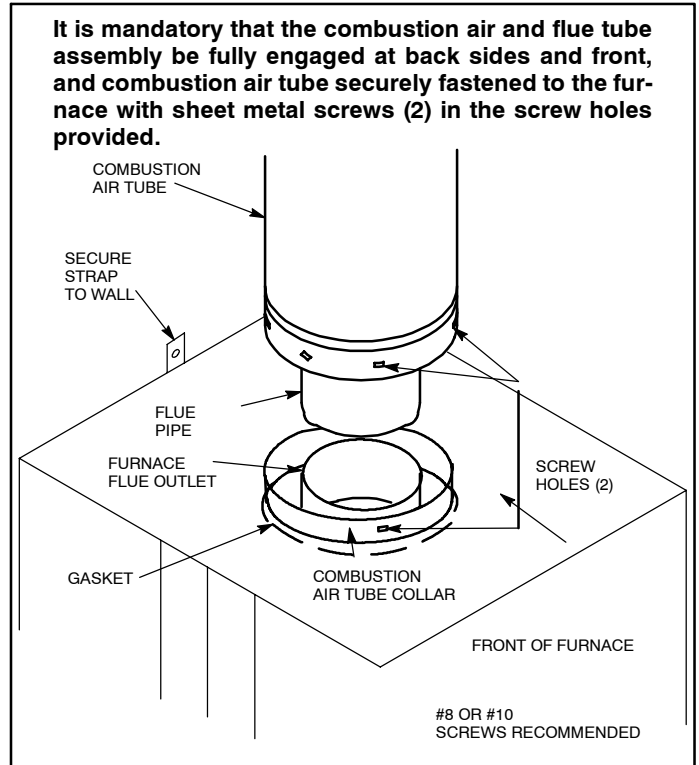

Figure 15 — Connecting Roof Jack to Furnace
2. Pull the telescoping flue tube and combustion air tube assembly down from the roof jack. Slide the flue tube/ combustion air tube assembly down firmly over the furnace flue outlet and combustion air collar. Insure that the back, side and front of combustion air tube collar is fully engaged and is in contact with gasket. Fasten the combustion air tube to the furnace combustion air collar using two (2) $\frac{1}{2}$ inch sheet metal screws. (Screw holes are provided in combustion air tube and furnace combustion air collar. (See Figure 15.)